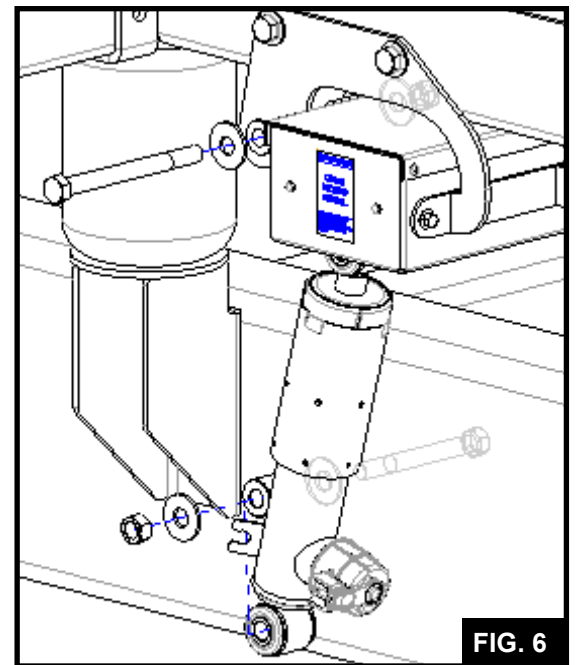

FIG. 6
Mount the shock to the cab bracket using the (1) 1/2 X 6 bolt, (1) 1/2 lock nut and (2) washers provided (FIG.6).
Mount the shock to the frame using the (1) 1/2 X 4 1/2 bolt, (1) 1/2 lock nut, (2) washers and (1) spacer bushing provided. The spacer is placed between the frame and the shock (FIG.6).